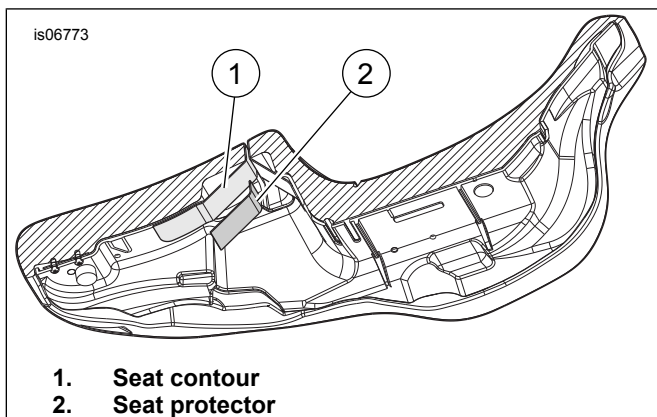

Figure 12. Underside of Seat
13. See Figure 12. Note the shape of the surface the seat protector (2) covers and gently form the protector to better fit the seat contours (1).